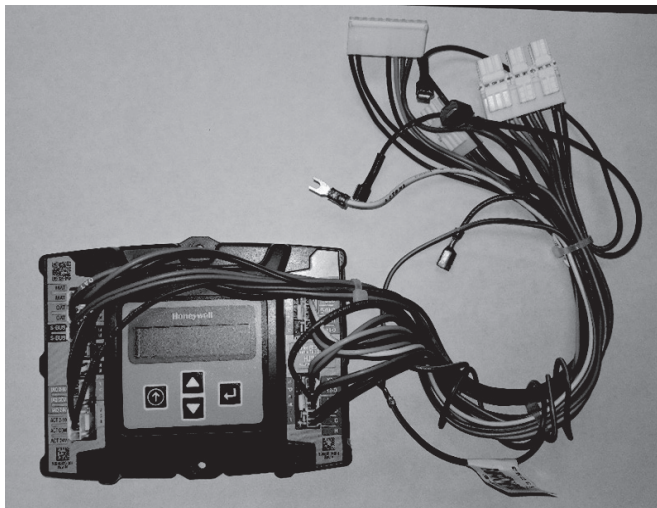

Fig. 24 — Remove Complete Harness Factory Attached to W7220 Controller
- The 48/50LC 07-12 units require different wiring than is factory-attached to the W7220 controller. Disconnect the complete wiring harness factory-attached to the W7220 controller, as shown below in Fig. 24. This harness can be discarded.